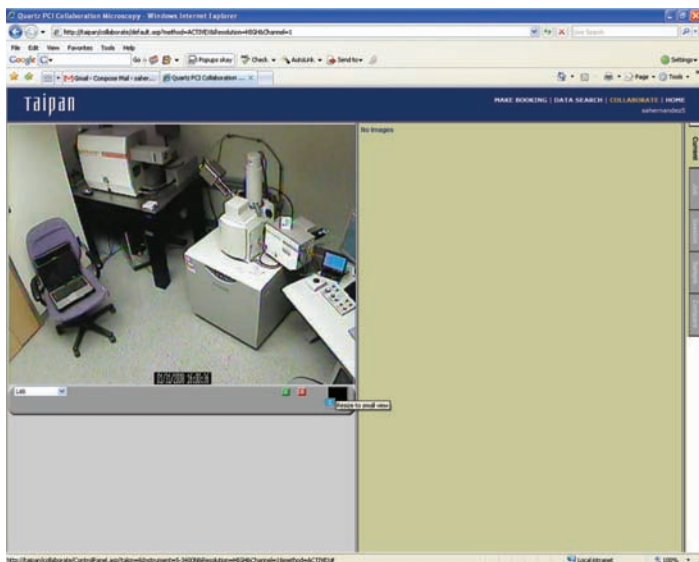

Fig. 1 Image of S3400-N in real time from a camera. A remote user would have a similar view of the microscopes and users in our laboratory.
Scanning electron microscopy and X-ray analysis are standard tools in the nanotechnology world, but access to them by students is limited by high cost and lack of equipment. For this reason, among others, we have developed an on-demand remote access system to The University Spectroscopy and Imaging Facilities (USIF) [1] of The University of Arizona (UA), by using Quartz PCI-Taipan [2]. In general, Taipan is an online server based program that enables spectroscopy laboratories to store, organize, and manage data as well as users. Significantly, the Taipan system allows users, operators and researchers to create their own online collaborations, which will, in many ways, fuse their research and outreach efforts. Therefore, we have incorporated the Taipan software to our recently installed Hitachi S-4800 FESEM and S-3400N variable-pressure SEM. With a high-speed internet connection, from any remote setting, the system allows students real-time access to view state-of-the-art microscopes, acquire data, and interact with the instrument operator. What is more, remote users can view up to six different screens including SEM image, SEM control screen, EDS, Raman spectrum, chamber scope, and microscope room as shown in Fig. 1. This offers a significant reduction of time, travel expenses, and more importantly, equipment cost.